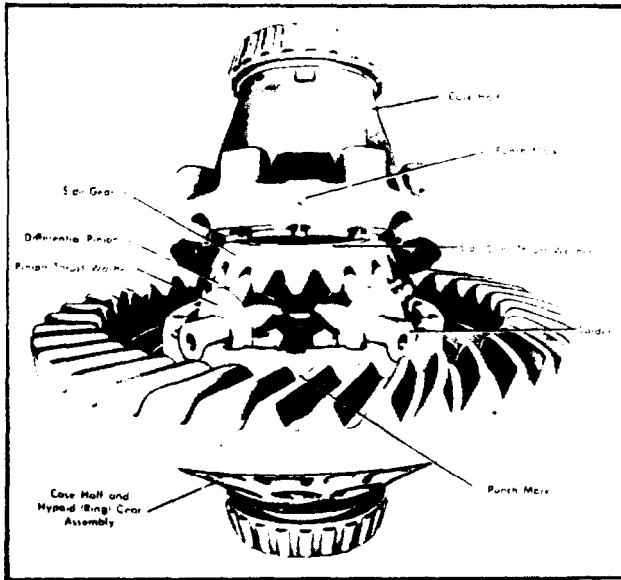

FIGURE 8-34.
c. Align mating marks and draw case halves together with four (4) equally spaced capscrews (see figure 8-34). Check assembly for free rotation of differential gears and correct if necessary. Install the remaining capscrews and torque them to 185-205 ft.-lbs. (25.57-28.33 kg-m). Install the lock wire.
d. Install the two (2) tapered roller bearings.